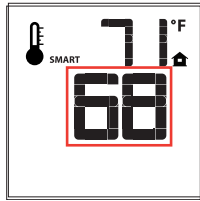

Figure 55 - Remote Control Displaying Smart Thermostat Function
1. To activate this function, press the Thermostat key until the word "SMART" appears to the right of the temperature bulb on the LCD screen (see Figure 55).